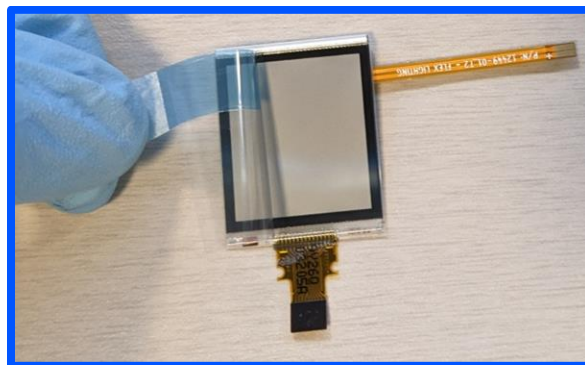

Figure 6. Removal of protective liner using speedy tab.
- Remove the protective film slowly, using the speedy tab, pulling at a $\sim 30^\circ$ angle from display surface. Remove under an ESD control device, like an ion blower, in a $>50\%$ RH environment to reduce the risk of static charge. Refer to Figure 6.